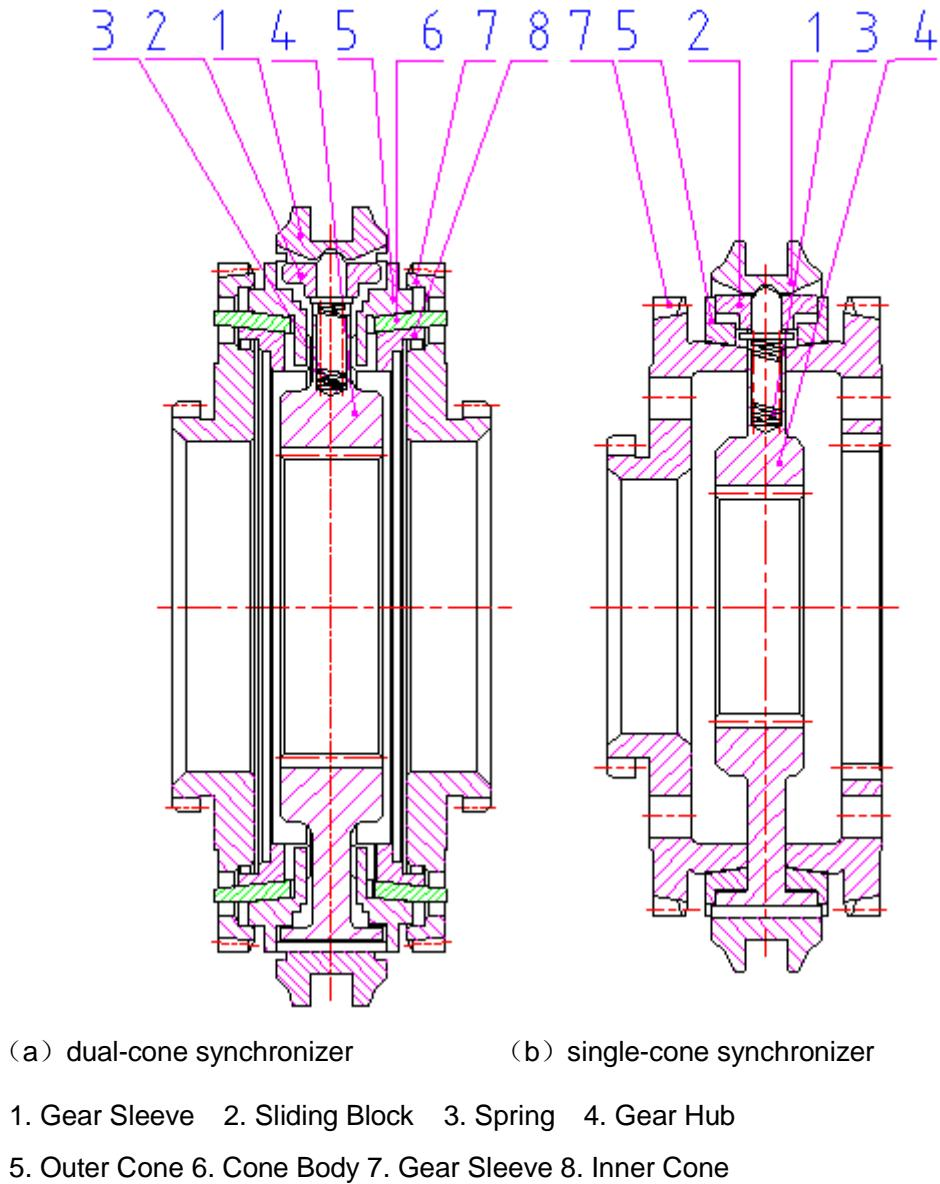

Figure1-2 Synchronizer Sub-Assembly
The transmission is shifted by synchronizers: dual-cone lock-ring synchronizers for 1st, 2nd, 3rd and 4th gears, single-cone lock-ring synchronizer for 5th and 6th gears. For the axial section view, please refer to Figure 1-2.
Synchronizer shown by Figure 1-2 (a) has dual-cone faces on both sides, the components Gear Sleeve(1), Gear Hub(4), Sliding Block(2), Spring(3) are shared by both sides; there are three (5,6,8) conical bodies on each side, and six single keys on Outer Cone (5) are connected with six keyways on Inner Cone(8), so Outer Cone (5) and Inner Cone(8) rotate with main shaft. Six projections on Cone Body(6) are connected with six holes on Meshing Gear Ring(7), so cone body rotates with gears on main shaft. As a result, when upshifting or downshifting, there is angular velocity difference between M/S gears and main shaft, now the two sliding friction conical faces of the synchronizer cone starts to work; because if the total dimensions are the same, axial thrust force exerted on Gear Sleeve(1) generates synchro friction torque on the friction conical face, which equals to the friction torque sum of the two friction conical faces, namely, when shifting gears, the produced synchro friction torque is almost twice of single-cone synchronizer, which greatly improves the synchronizer performance and makes easier, smoother, faster and reliable gear shifting.
6DS series transmissions adopt two kinds of synchronizers in terms of different structures. Figure 1-2 (a) is dual-conical faced synchronizers, two sets and for 1st and 2nd gears and 3rd and 4th gears respectively. Due to two sets of friction pairs in such kind of synchronizer, the synchro-torque is greatly improved, making shifting easier. Figure 1-2 (b) is single-conical faced synchronizer, used for 5th and 6th gears. Due to smaller ratio step, so here single-conical faced synchronized is applied. These two kinds of synchronizers both belong to lock-ring inertia synchronizers, and there is a middle position within it for neutral.